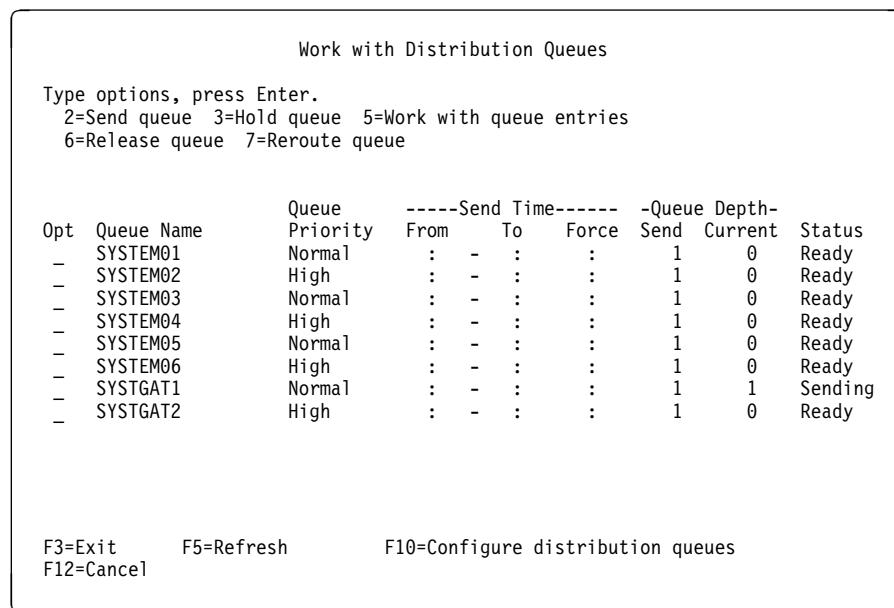

Figure 8-6. Work with Distribution Queues Display
1. Use the Work with Distribution Queues (WRKDSTQ) command. Figure 8-6 shows the Work with Distribution Queues display: